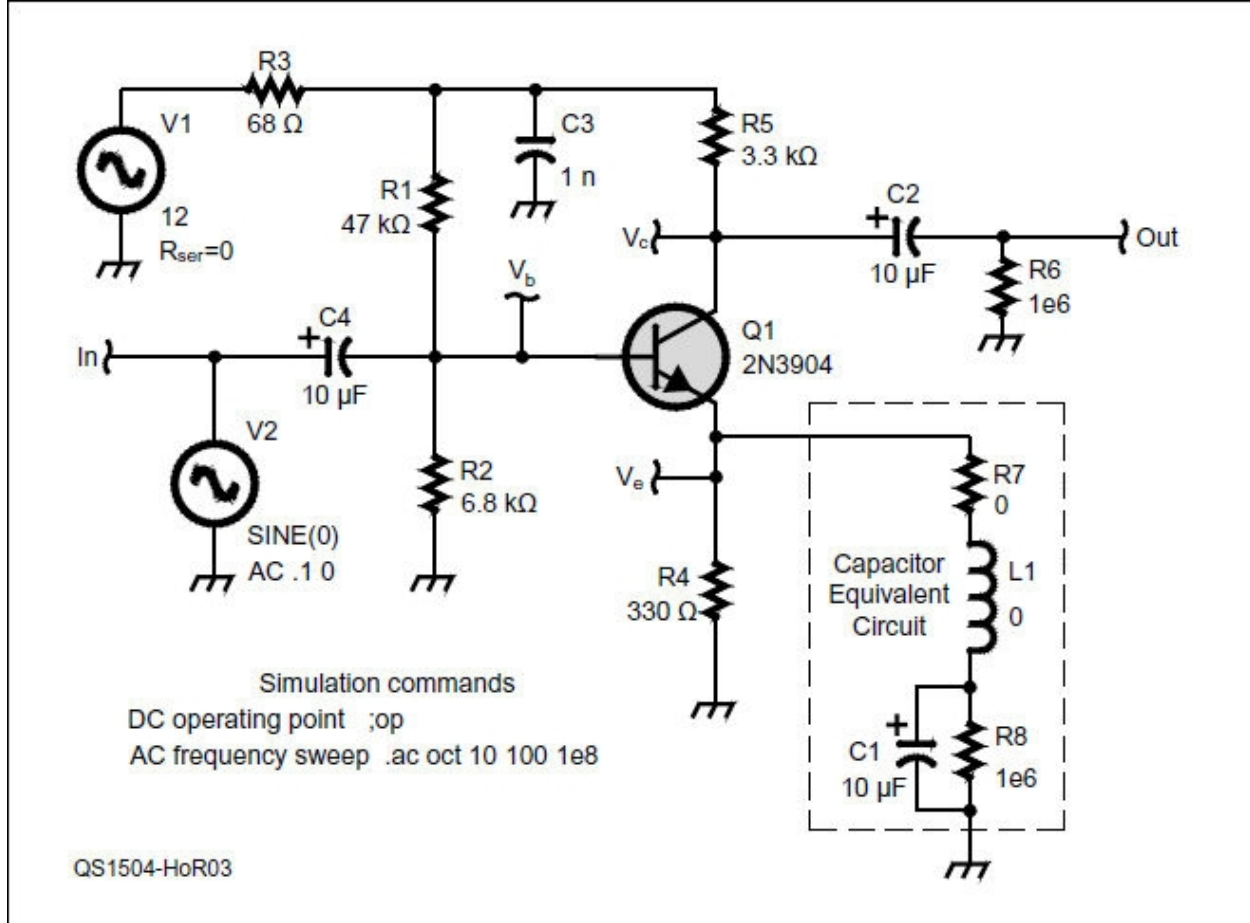

Figure 3 — *LTSpice IV* circuit for demonstrating the effect of parasitic components associated with the emitter bypass capacitor, C1.
Figure 3 shows a common-emitter (CE) amplifier, the subject of Hands-On Radio Experiment #1, way back when. The ac gain of a CE amplifier primarily depends on two things — the transistor’s gain-bandwidth product (h_{FE}) and the ratio of the collector and emitter impedances, both of which change dramatically with frequency. In the emitter circuit, however, the bypass capacitor is represented by the RF model.
Start by carefully creating the entire circuit as shown in Figure 3. (The *LTSpice IV* schematic file and two sample response traces are available on the Hands-On Radio web page for the experiment.) The voltage source V1 is a 12 V power supply. The voltage source V2 is the ac sine wave input to the circuit. Set the parasitic component values of R_S (R7) and L_S (L1) to zero and of R_P (R8) to a very high value. Next, perform a dc operating point (DC OP PNT) simulation. Make sure the value of V_C is somewhere near $1/2 V_1$ and the transistor's collector current, $I_C(Q1) \approx 2.5 \text{ mA}$. If the operating point is not correct, the simulation will not produce accurate results.